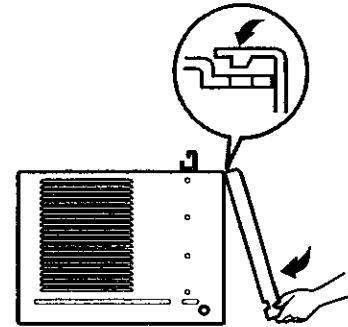

Figure 96
- Hook upper tabs of front grille into slots on the cabinet top. (See Figure 96)
- Push front grille towards the cabinet in order to snap side tabs into the cabinet. (See Figure 96)